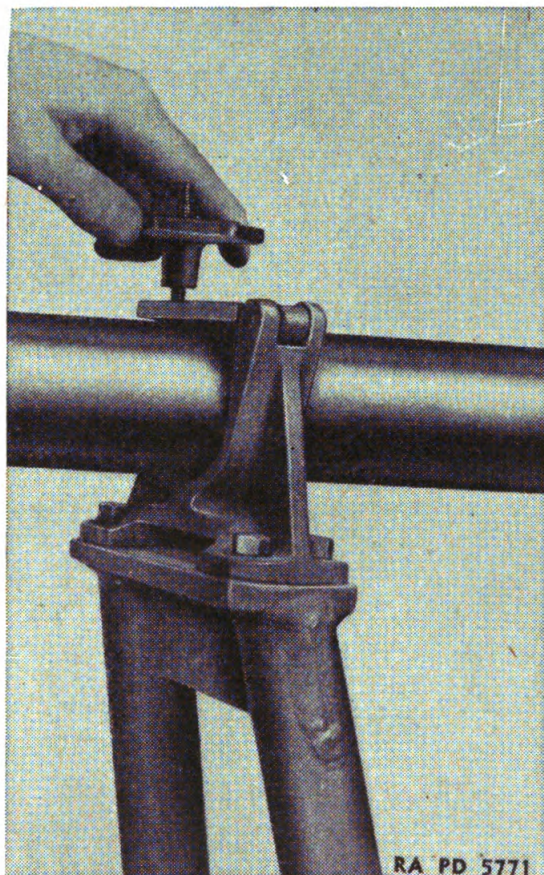

FIGURE 38.—Detaching gun tube from gun support.
(3) Place the outrigger over the pin below the turnbuckle and force the outrigger against the ground.
(4) Insert the turnbuckle screw pin into its socket in the outrigger. Turn the turnbuckle nut counterclockwise until it is tight and holds the outrigger firmly against the ground.
(5) The other outrigger is treated in the same manner.
*f. Lowering gun support.*—(1) Loosen the nut holding the clamp around the gun tube, swing nut down, and swing the clamp in the opposite direction (fig. 38).